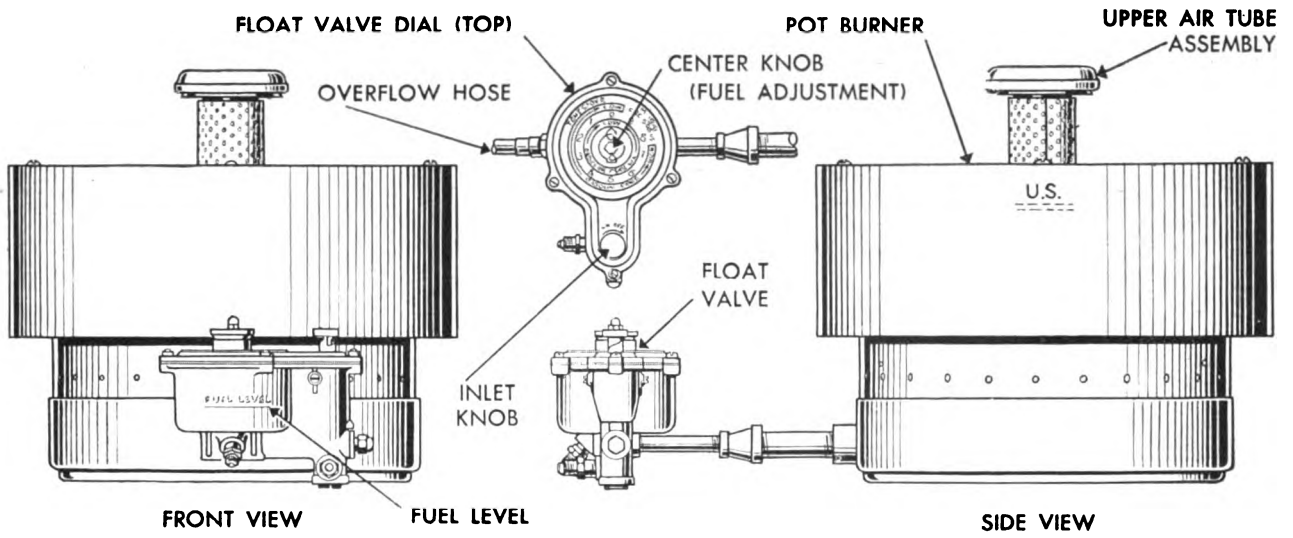

Figure 89. Detail of oil burner and float valve.
c. HOW TO ASSEMBLE. (1) Place the base of the stove on the ground or the floor of the tent and lay the separation ring on top of it. If the stove is already assembled for the use of coal, remove the stovepipe, the top, and the grate.
(2) Connect float valve to burner with pipe nipples; make connections tight enough to prevent fuel leaks and to hold float valve in level position. Float valve will be irreparably damaged if it is used as a pipe wrench in making joints tight.
(3) Insert the valve and the burner pot in the ring and extend the control out through the ash-pit door opening. Rotate the burner until its catches are engaged under the edge of the separation ring.
(4) Install the cast-iron air tube in the center of the burner.
(5) Attach the top section of the stove and the stovepipe.
(6) Connect the hose from the fuel tank adapter to the "inlet" fitting at the end of the control.
(7) Connect another hose to the overflow under the center of the float valve. This hose is to carry off any possible overflow and consequently must drain downward and discharge in a safe outside location.
(8) Remove the screw cap from a standard 5-gallon can of fuel and insert the adapter. With the cam loosened, screw the outer ring down firmly. At the same time hold the cam lever so that the vent tube is centrally located, pointing diagonally toward the opposite lower end of the can. Tighten the cam lever.
(9) Make certain that the inlet knob at the end of the control is in the OFF position. Then invert the fuel can and mount it on a suitable elevated support.
(10) Make sure that all fuel line joints are leakproof.
d. HOW TO LIGHT THE BURNER USING GASOLINE. (see fig. 89). (1) Open the cover on the tent stove.
(2) Turn the center knob to 9 on the dial. When gasoline appears in the burner, turn the knob back to 1.
(3) Drop a lighted match into the burner immediately.